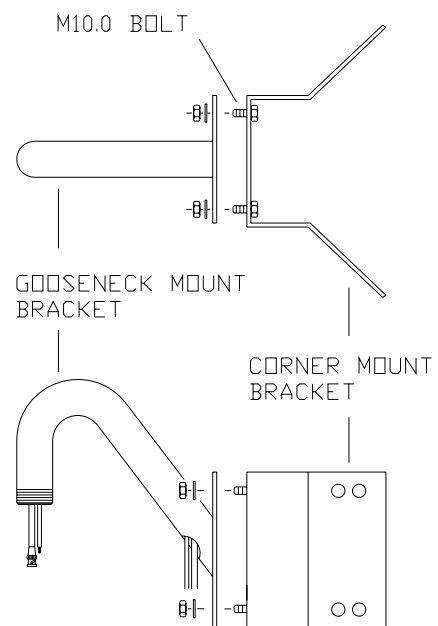

FIG.21
4. Fix the wanted bracket on the corner mount bracket with 4 ea of M10 BOLT before you install the corner mount bracket. (FIG.21)